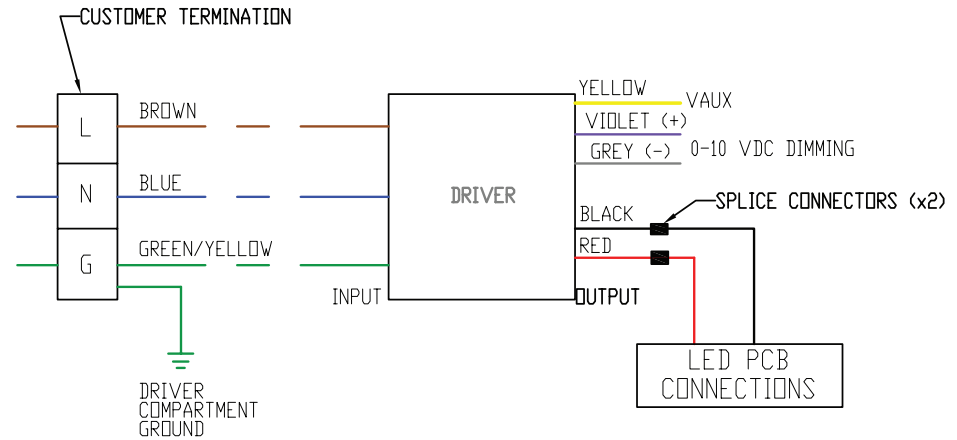

FIGURE 2
2. Close all unused conduit entries with conduit plugs provided. To prevent galling and to ensure watertightness, lubricate conduit plugs with Eaton's Crouse-Hinds HTL lubricant before installing, and secure wrench-tight with at least five (5) full threads engaged (42-52 ft.-lb. for 3/4" plugs, and 58-68 ft.-lb. for 1" plugs).
4. Connect supply wires to luminaire wire leads or terminal block per the attached wiring diagrams using methods that comply with all applicable codes. See Figure 2. Tighten all electrical connections.
5. Close driver housing onto cover module, making sure that all wires are safely inside driver housing. Tighten captive closing screw to 30 in.-lbs. (3.4 N-m). Ensure two (2) bosses on driver housing are in contact with cover module.